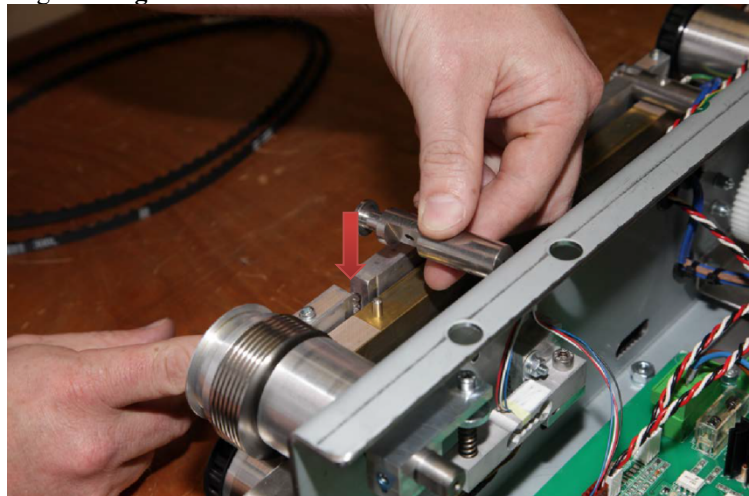

Figure 4
4. Remove the element support and watch for the small spring inside the aluminum guiding bar. **Fig.4**